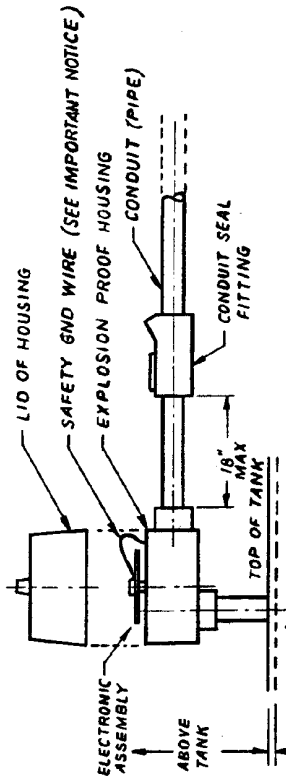

FIG. 1
SEE ILLUSTRATION FIG. 1. FOR APPROVED INSTALLATION IN HAZARDOUS LOCATIONS. WHEN CONFIGURED AS INDICATED, ALONG WITH APPROPRIATE SENSOR LISTED BELOW, THE ELECTRONICS LISTED ABOVE IN DIE CAST ALUMINUM HOUSING ARE FACTORY MUTUAL (FM) APPROVED FOR CL. I, II, III, DIV. 1; GR. C, D, E, F, & G.